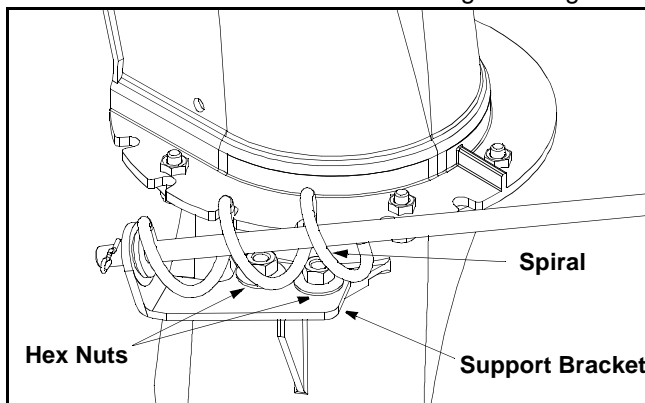

Figure 9
- Loosen, but do NOT remove the two hex nuts which secure the chute directional control support bracket to the snow thrower housing. See Figure 9.